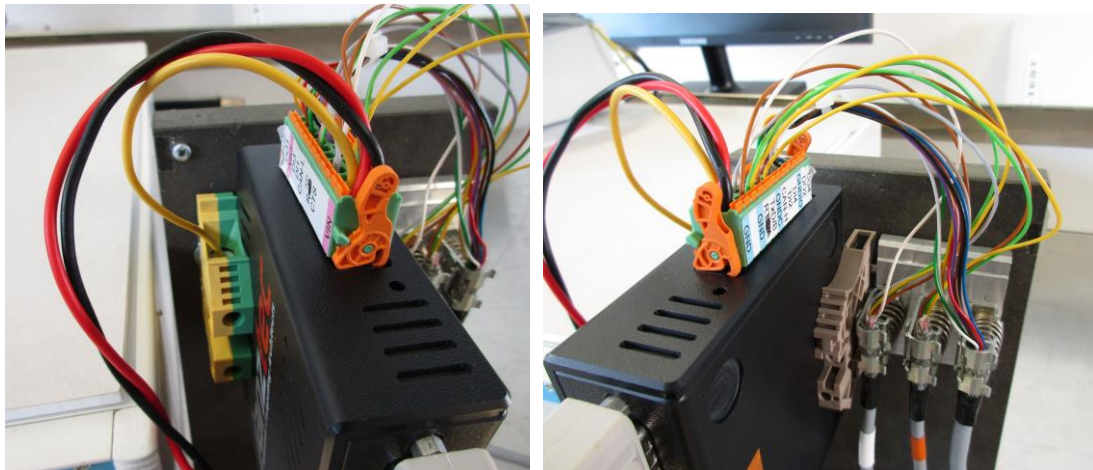

figure 8: EMC Shielding
In figure 8 we show the EMC shield (PE) connection that we utilized during EMC compatibility tests to pass industrial level immunity.